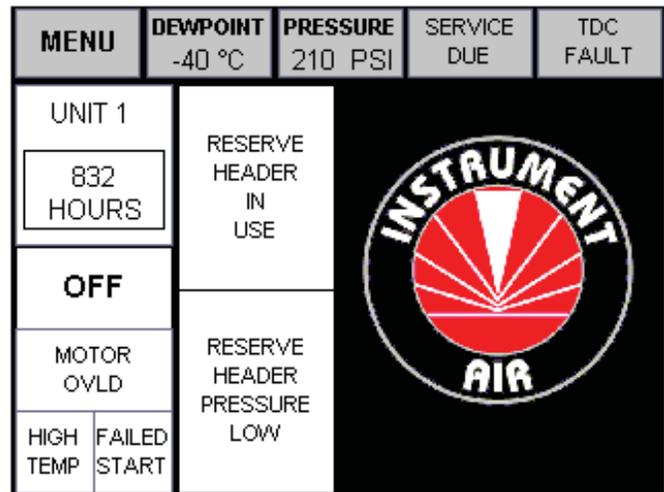
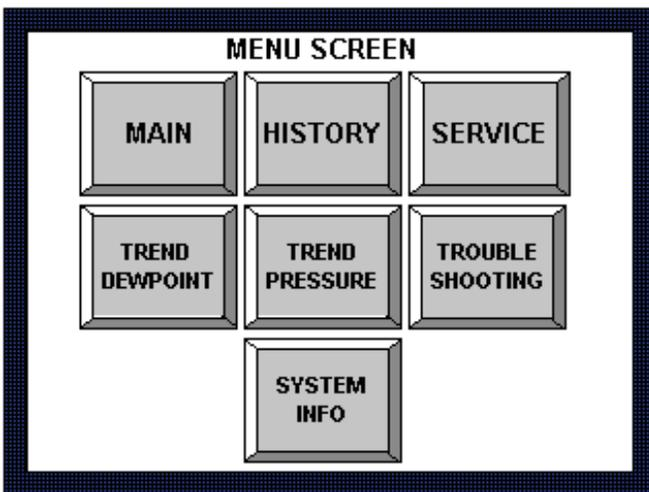
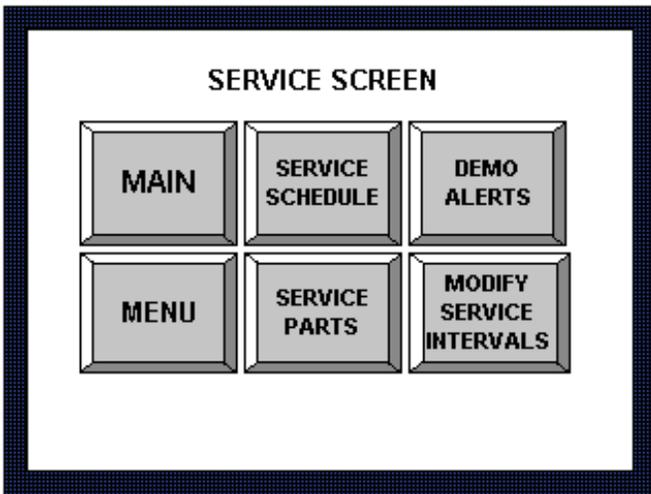

Fig E-3. Main Panel Screen (Simplex System Shown)
Fig E-4. Menu Screen
Fig E-6. Service Screen
The main screen for Simplex Systems will monitor and display the systems dew point reading, air receiver pressure, total run hours and run status (HOA switch position). Included on this screen is a service due alarm, and transducer fault alarm for the system as well as alarms for motor overload, high discharge air temperature, failed start alarms, reserve header in use and reserve header low pressure. The “MENU” button in the upper left corner will allow the operator to navigate through the screens to view the system alarm history, service schedule and records, dew point and pressure trends, basic troubleshooting and system general information. When the HMI is powered up the main control window will appear on the display screen (See Fig E-3.). This touch screen displays the systems current dew point reading, pressure, total hours run, HOA switch setting and status of service schedule and alarm conditions.
The “MENU” button in the upper left corner (Fig E-2.) on the main screen when selected will display the “MENU SCREEN” window that will allow the operator to access information about the units’ history, service requirements, dewpoint and pressure trends, troubleshooting help and system information (Fig E-4.) Each button will be explained in detail in this section.
The “HISTORY” button (Fig E-4) will open a new window listing all the alarm conditions that have occurred as well as routine maintenance alerts (Fig E-5). The list will show the date and time of the incident, type of incident and when the condition was cleared/corrected. This creates a permanent record of the history of the unit and cannot be reset.
The “SERVICE” button (Fig E-4) will open a new screen that allows the operator to view the service schedule for the unit, get a list of standard service parts and view the service intervals for the unit (Fig E-6).
10. To return to the “Service Screen” (Fig E-6) touch the arrow in the lower left corner.
The “Service Interval” screen lists the time interval for routine maintenance for each system. The time intervals are pre-programmed into the HMI at the factory and are used to trigger the “Service Due” indicator on the main control screen (Fig E-3). The service intervals can be changed by BeaconMedæS service personnel only. To return to the “Service Screen” (Fig E-6) touch the arrow in the upper left corner.